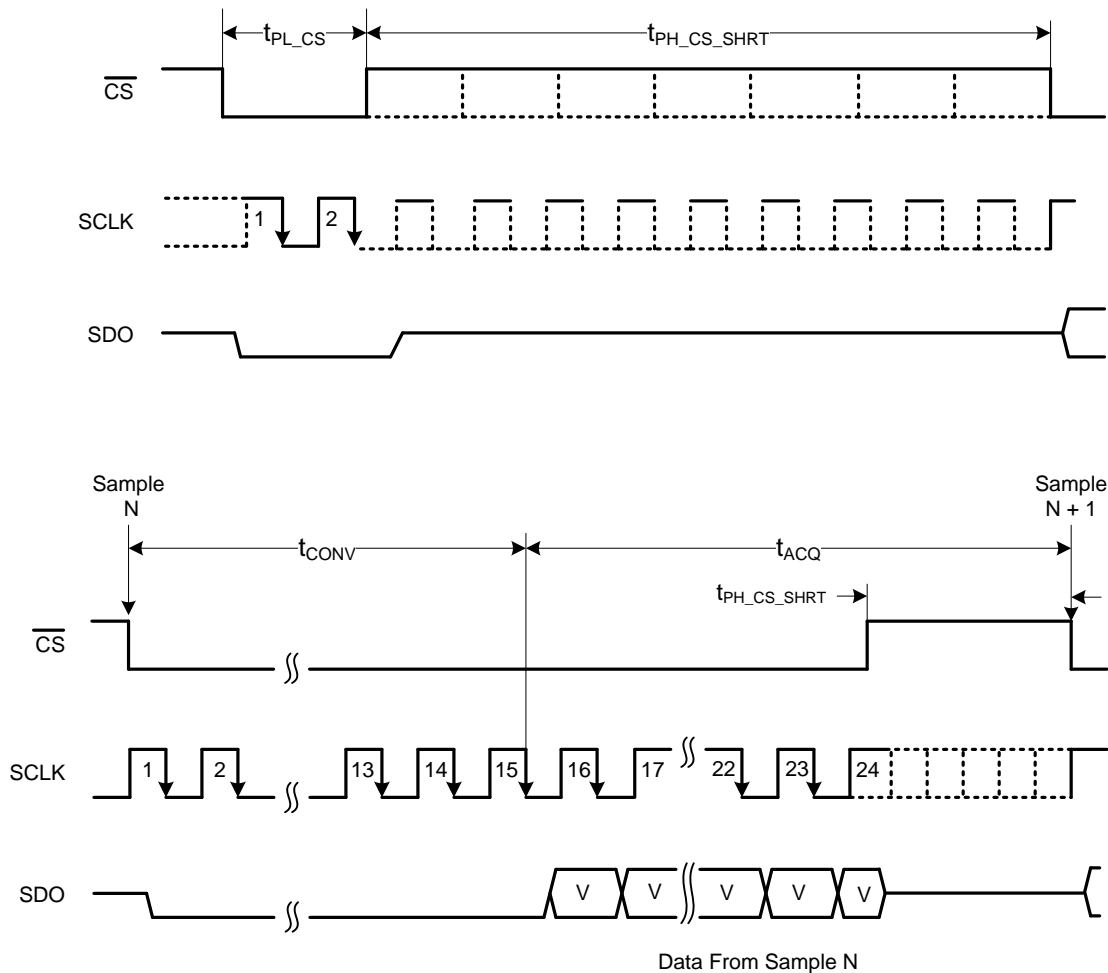

Figure 98. Frame Abort, Reconversion, or Short-Cycling Feature
As discussed in Figure 98, the minimum number of SCLK falling edges (N) that must be provided between the beginning and end of the frame depends on the serial interface mode. The SCLK falling edges (N) program the device and retrieve the conversion result. If $\overline{\text{CS}}$ is brought high before the expected number of SCLK falling edges are provided, the current frame is aborted and the device starts sampling the new analog input signal.